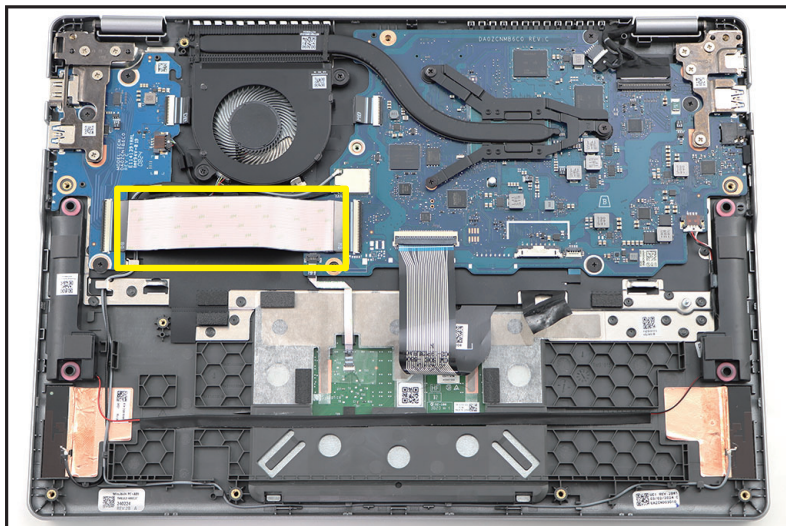

Figure 1-9. SSD Module Location
1. Locate the SSD module on the top assembly (underneath the USB FFC) (Figure 1-9).